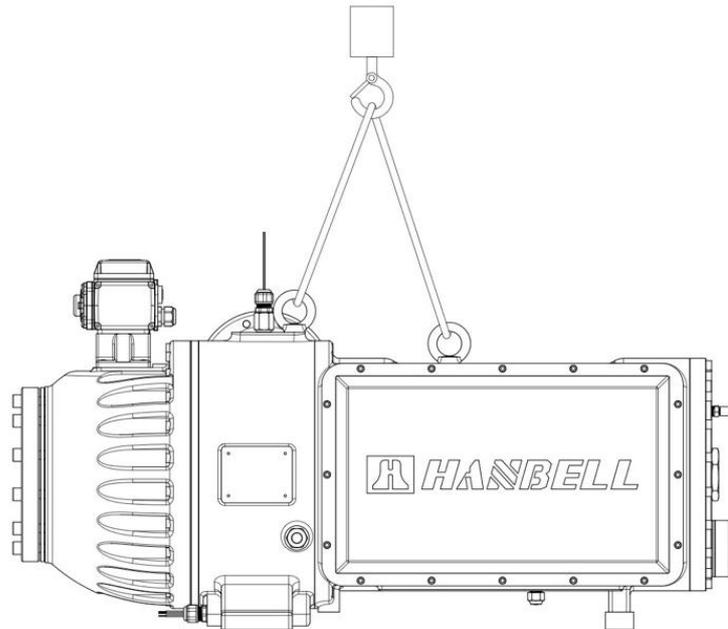

Figure 7-1 Lifting compressor
- When hoisting the compressor, it is recommended to use the lifting lugs or slings as shown in Figure 7-1, or slings capable of bearing a load of 2,500 kg.